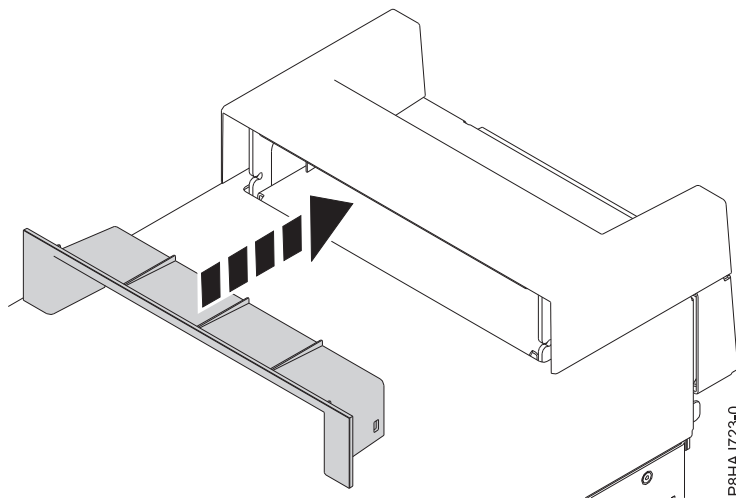

Figure 141. Inserting the piece within the handle cover on an 8286-41A stand-alone system
2. Insert the piece within the handle cover by pushing it firmly into the handle cover as shown in Figure 141.